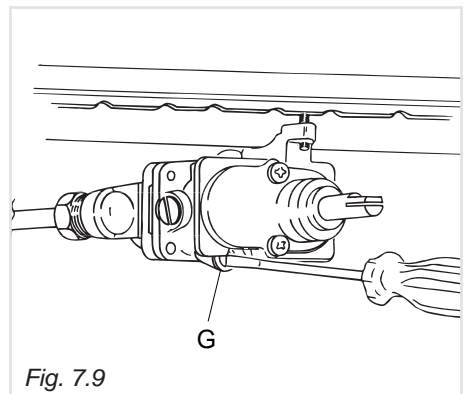

Fig. 7.9
- remove the knob and unscrew the by-pass screw "G" (fig. 7.9) about three times by passing a small flat screwdriver (Ø 3 mm blade, 100 mm length) through the panel opening;
- after having removed the knob again and being very careful not to turn the tap rod, slowly screw the by-pass screw "G" (fig. 7.9) until you obtain a flame of 3-4 mm in height.